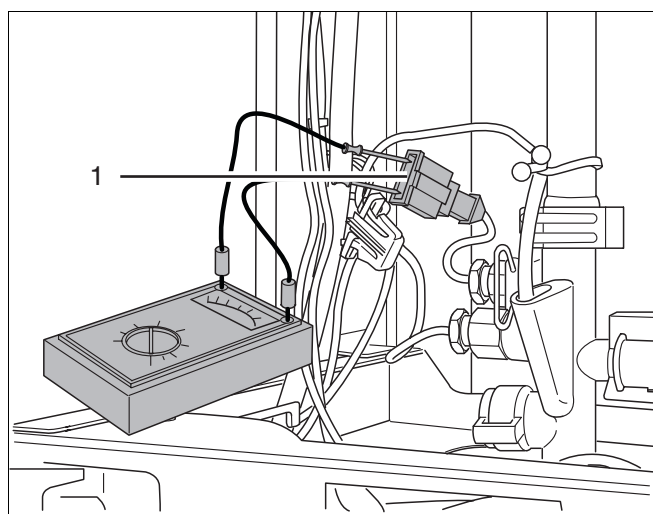

Fig. 70 600 - 11S / 19S / 24S / 24C:
- Measure resistance of sensor (fig. 70, item 1).